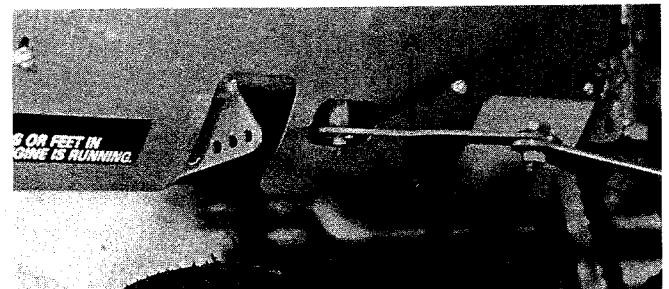

Figure 9
11. Install transport link "A" to center pin on rear of cutting unit and secure with cotter pin (Fig. 9).
— Since extension spring is tensioned, GRASP SUPPORT ARMS when installing or removing transport links from cutting units ("A", Fig. 9).